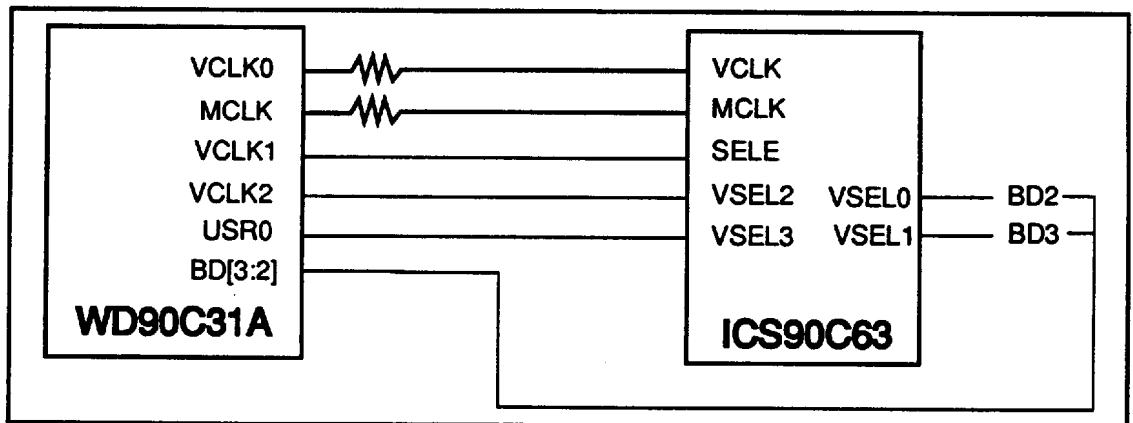

FIGURE 3-12 CLOCK INTERFACE
- Figure 3-12. Clock Interface
Figure 3-12 shows the clock interface with external oscillators configured as inputs. Clock selection is determined by register 3C2h, bits 3:2 as listed in the following table.